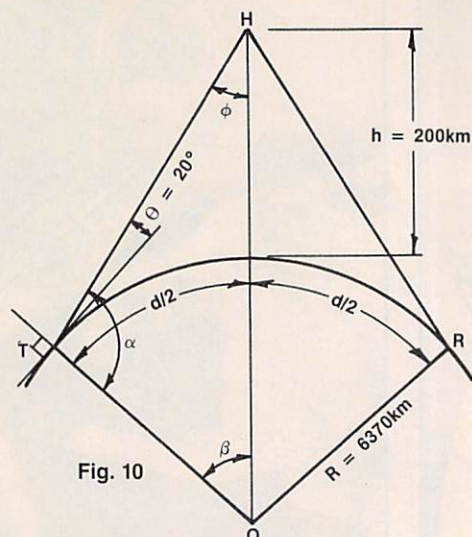

Fig. 10
The virtual height is, however, used in calculating the transmission path between two stations. In Fig. 10, the transmission path between transmitter (T) and receiver (R), as measured along the surface of the Earth, is shown as  $d$ .  $\theta$  is the angle made by the antenna main beam at point T,  $h$  is the virtual height, and  $R$  the radius of the Earth.